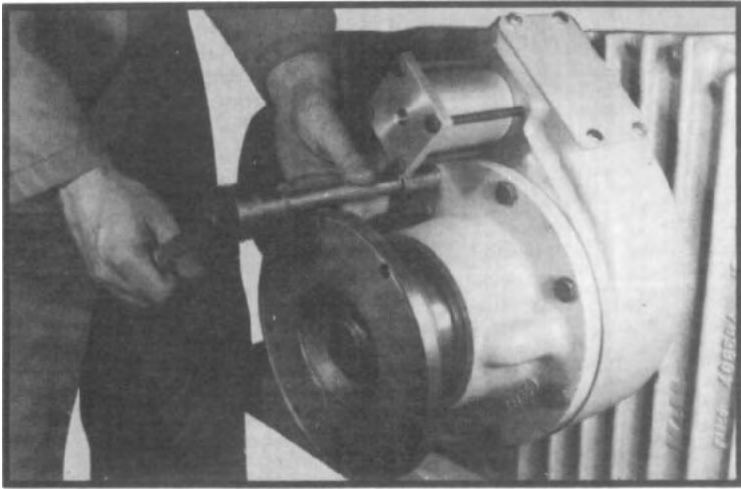

Fig. 189
25. Apply gasket to PTO/declutch housing and install declutch carrier with eight capscrews, tightening to correct torque. PTO/declutch carrier must be installed so oil port is facing toward the bottom of the case. (See fig. 189.)